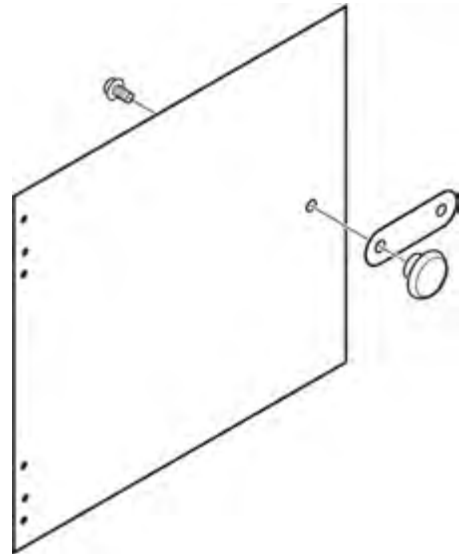

Figure 4-16
19. Using one M8 x 20 Hex Flange Bolt (item #24), attach the Door Lock (item #32) and Door Knob (item #33) to the Door (item #40), as shown in Figure 4-16. Make sure the Door Lock is positioned between the Door and the Door Knob.